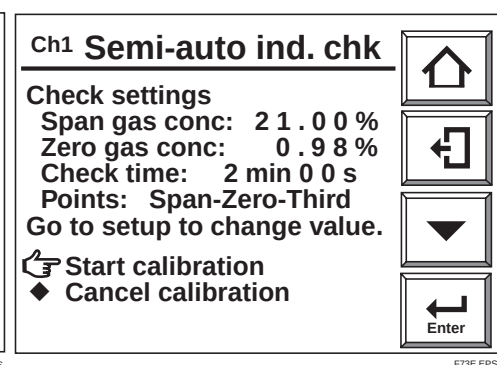

Fig. 10.21 Indication Check Start
- 3) Select the channel to perform indication check. The screen of Fig. 10.21 is displayed.